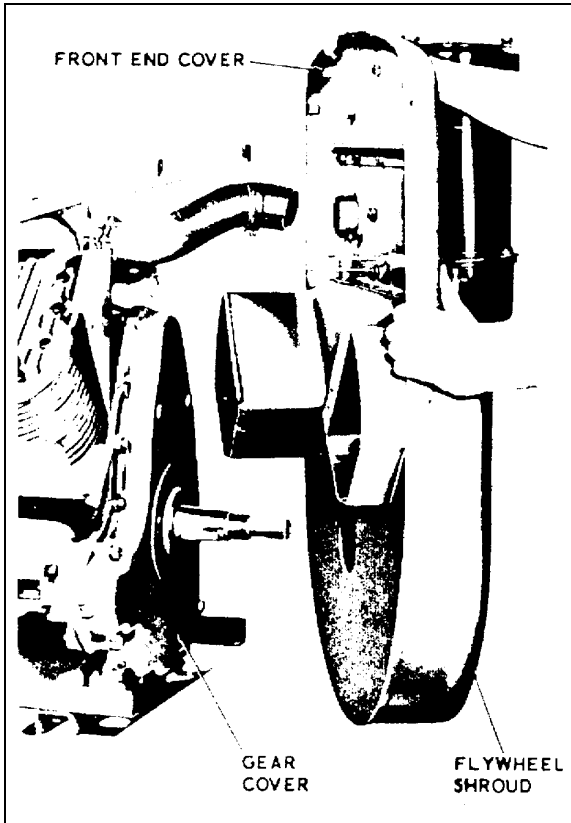

Figure 4-7. Removing Flywheel Shroud
- (1) Remove starting motor and magneto. Remove cylinder head covers and screws mounting flywheel shroud to lower cylinder shrouds and heat deflectors. Remove front end panel as shown in figure 4-7. Remove balance of shrouding. Drain crankcase oil.
(11) Install magneto and starting motor. Install shrouding (figure 4-7).